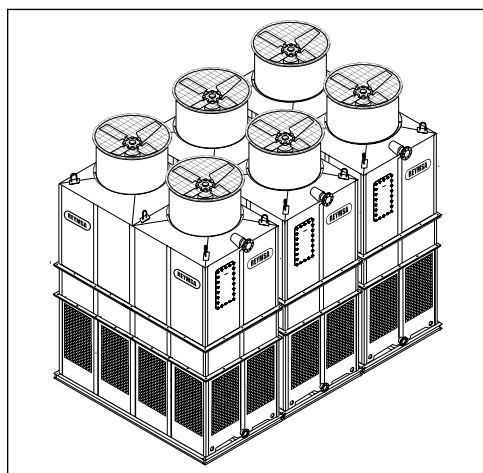

Figure A-68: Modular Tower installed by large side arrangement (-L)
F. Follow the same instructions to place the remaining fan ducts (see figure A-68).